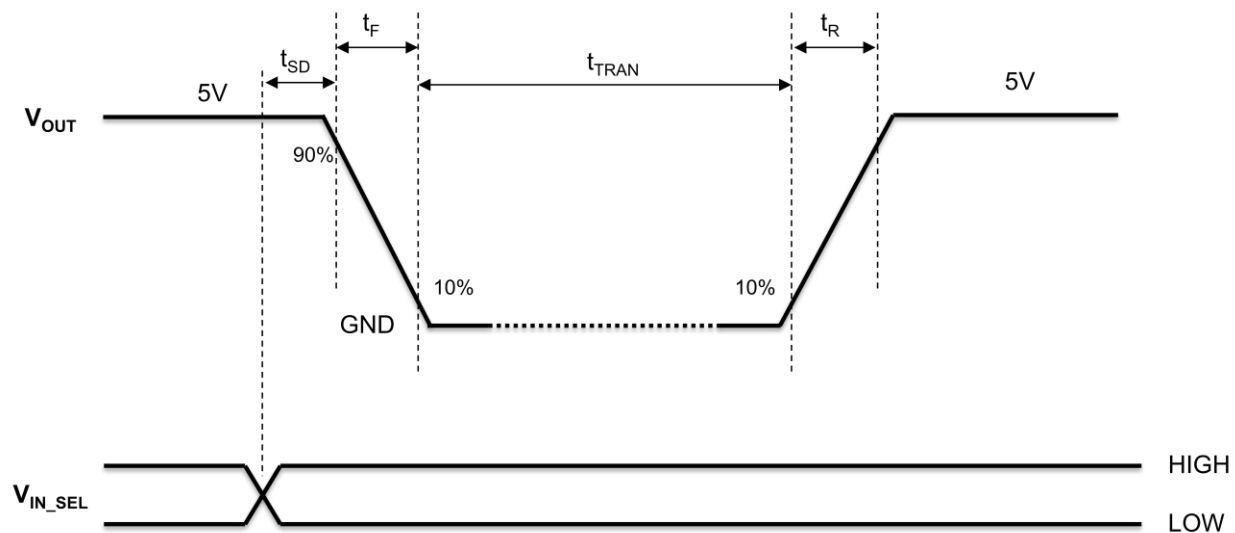

Figure 6. Transition Delay ($V_{IN}=V_{BUS}=5\text{ V}$)
- $t_{SD}/t_{\text{TRAN}}/t_R/t_F$ are defined in Figure 6.